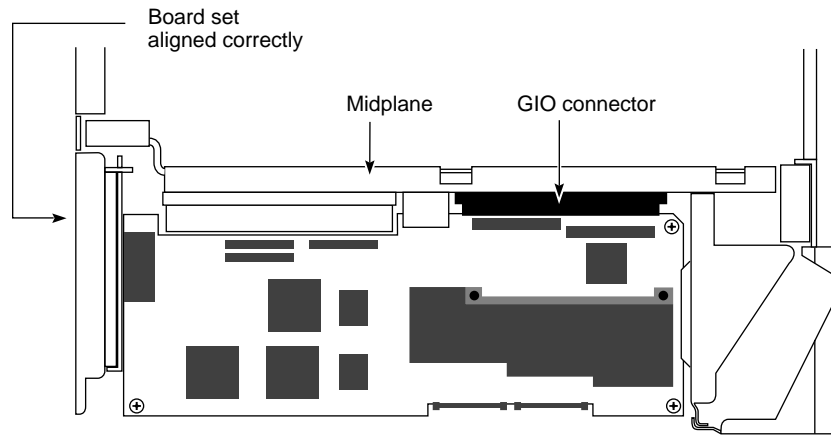

Figure 5-61 Board Set Correctly Aligned
2. Visually check to be sure the boards are completely seated in their connectors. The board set should not look tilted when viewed from above. See Figure 5-61.